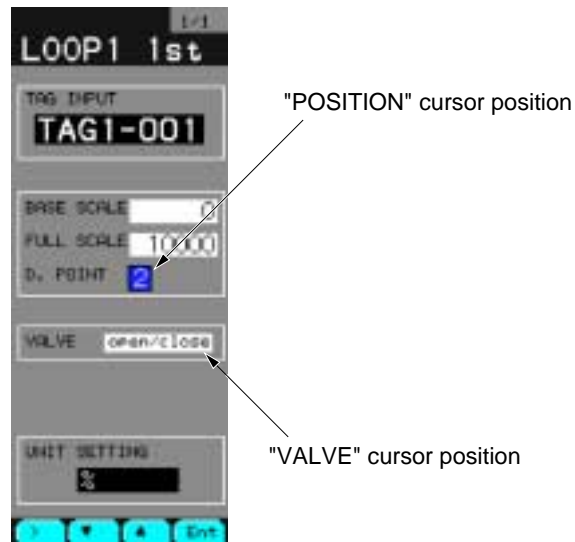

Fig. 4-32
- ⑲ Move the cursor to “D.POINT” (Fig. 4-32).
- ⑳ Press the “Ent” key. The cursor will turn yellow.